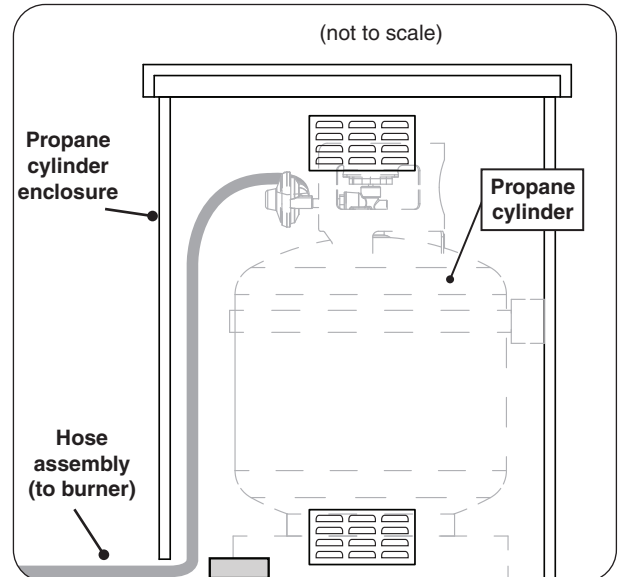

Fig. 31-3 L.P. Cylinder placement
3. The propane cylinder (not included) is to be located inside the separate propane cylinder enclosure (see Fig. 31-3).